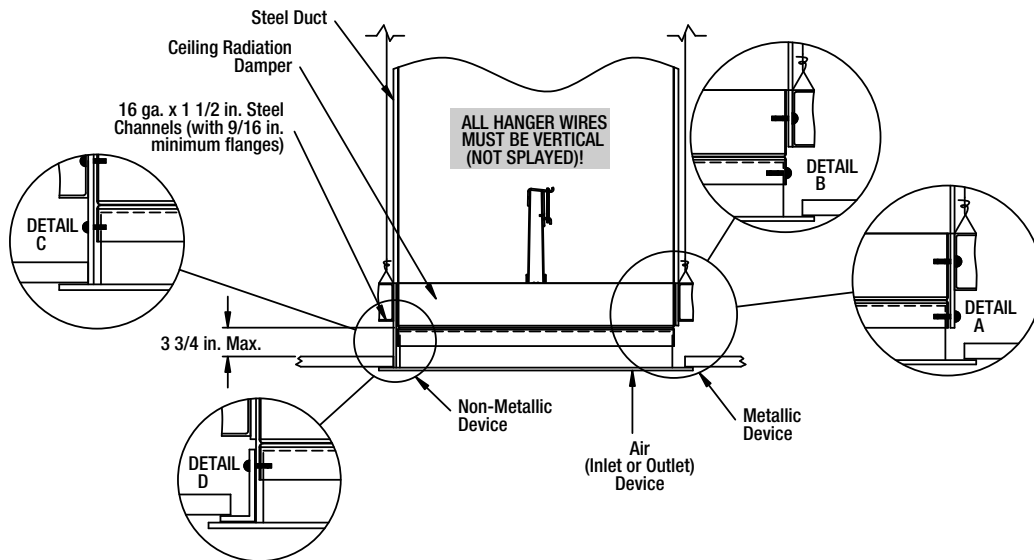

Figure 7
Ceiling radiation dampers and air inlet or outlet devices may also be supported directly from the structure above using one or more of the methods described in **Figures 7, 8, 9, or 10**. When channels are to be used as support, they must be 16 ga. x 1 1/2 in. steel channels with 9/16 in. minimum flanges (2 required per damper on opposite sides). Air device flange must overlap the ceiling membrane by a minimum of one inch.
1. Ceiling radiation damper and air device neck may be connected directly to the duct drop (see **Detail A, Figure 7**).
2. Ceiling radiation damper may be connected directly to the air device neck and then the duct drop connected to the damper (see **Detail B, Figure 7**).
1. The steel duct drop should extend to the bottom surface of the ceiling membrane and the opening in the ceiling membrane (see General Information, Ceiling Penetrations) should be equal to the outside of the duct drop (see **Detail C, Figure 7**). Models CRD-1, CRD-1LP, CRD-2, and CRD-60 may be installed as shown in **Figure 7** (Model CRD-1 & CRD-1LP illustrated).
2. A steel angle should be attached to the bottom of the ceiling radiation damper and span the gap from the ceiling radiation damper to the bottom of the ceiling membrane (see **Detail D, Figure 7**).
Models CRD-1, CRD-1LP, CRD-2, and CRD-60 may be installed as shown in **Figure 7** (Model CRD-1 & CRD-1LP illustrated).